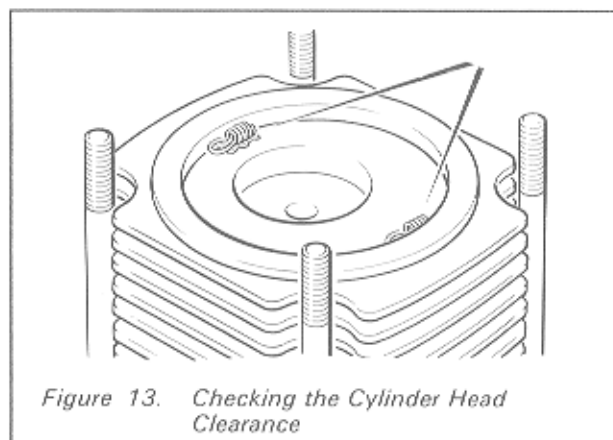

Figure 13. Checking the Cylinder Head Clearance
6. Refer to Figure 13, and using a very small amount of high melting point grease place the two pieces of wire (A) on the piston crown (B) at either side of the gudgeon pin axis and 90° to the centre line. They should just touch the cylinder bore. Care must be taken to ensure the wires are not placed over any markings on the piston.